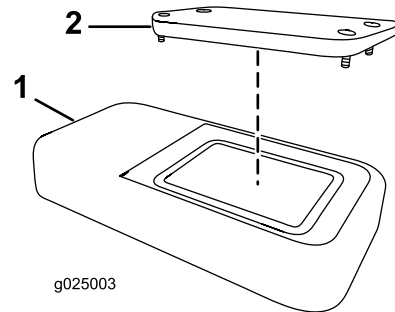

Figure 60
2. Remove the cover (Figure 60).